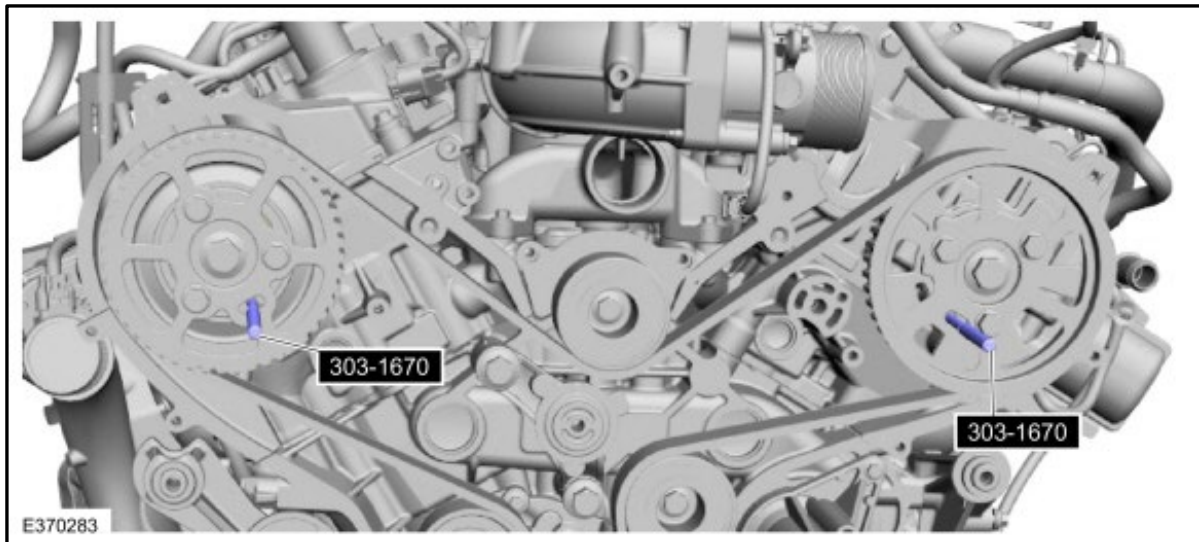

Figure 26
U. Remove Camshaft Locking Pins Special Service Tool: 303-1670 (or x2 5.9mm drill bits). Figure 26